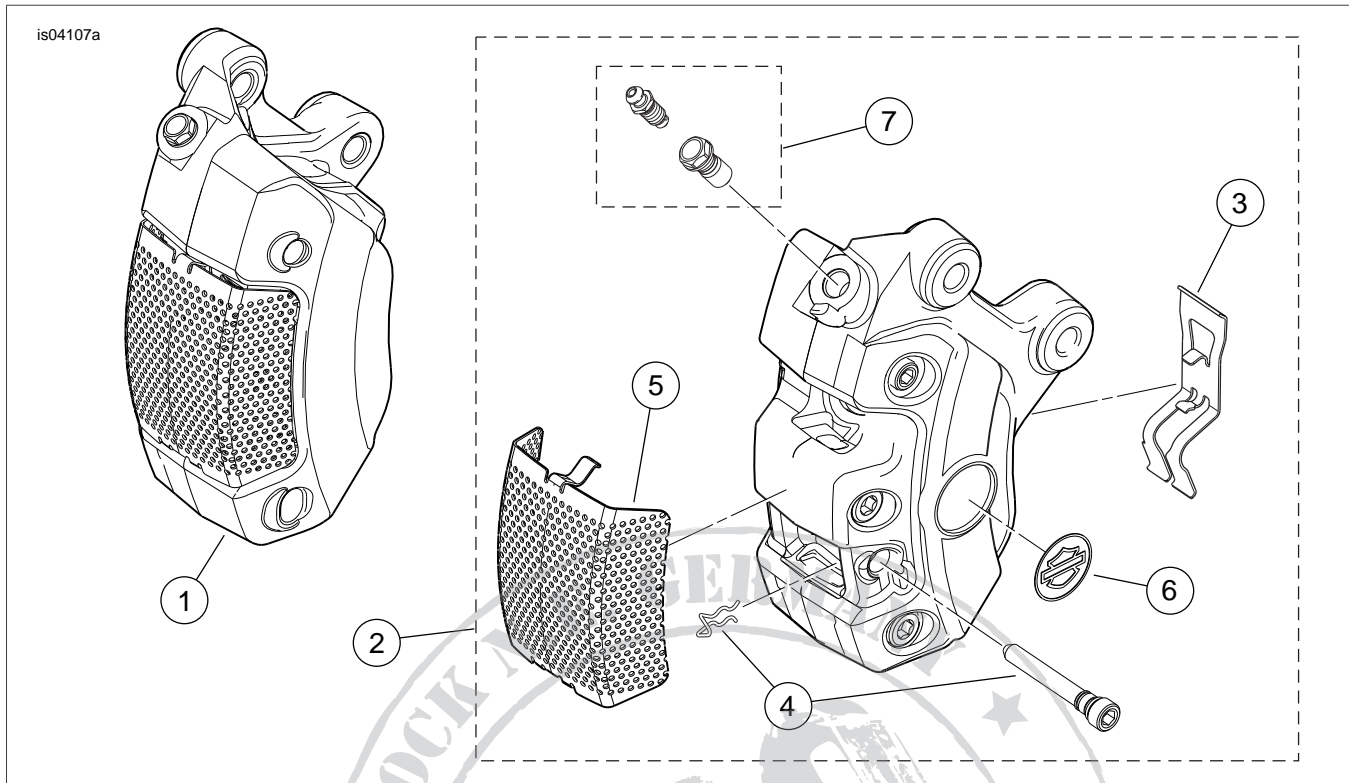

Figure 3. Service Parts: Chrome Front Brake Caliper Kit
See Figure 3 and Table 1.
1. See Figure 3. Obtain the correct-side **new** chrome caliper assembly from the kit. Remove the screen cover (5), retaining clip and pad pin (4) from the caliper.